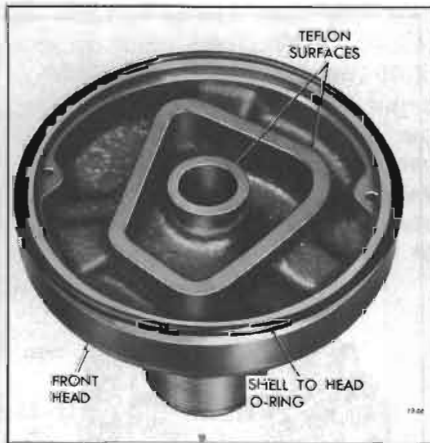

Figure 13-66—Front Head Teflon Sealing Surfaces
**NOTE:** If teflon surfaces of front head (see Figure 13-66) are damaged, replace front head.